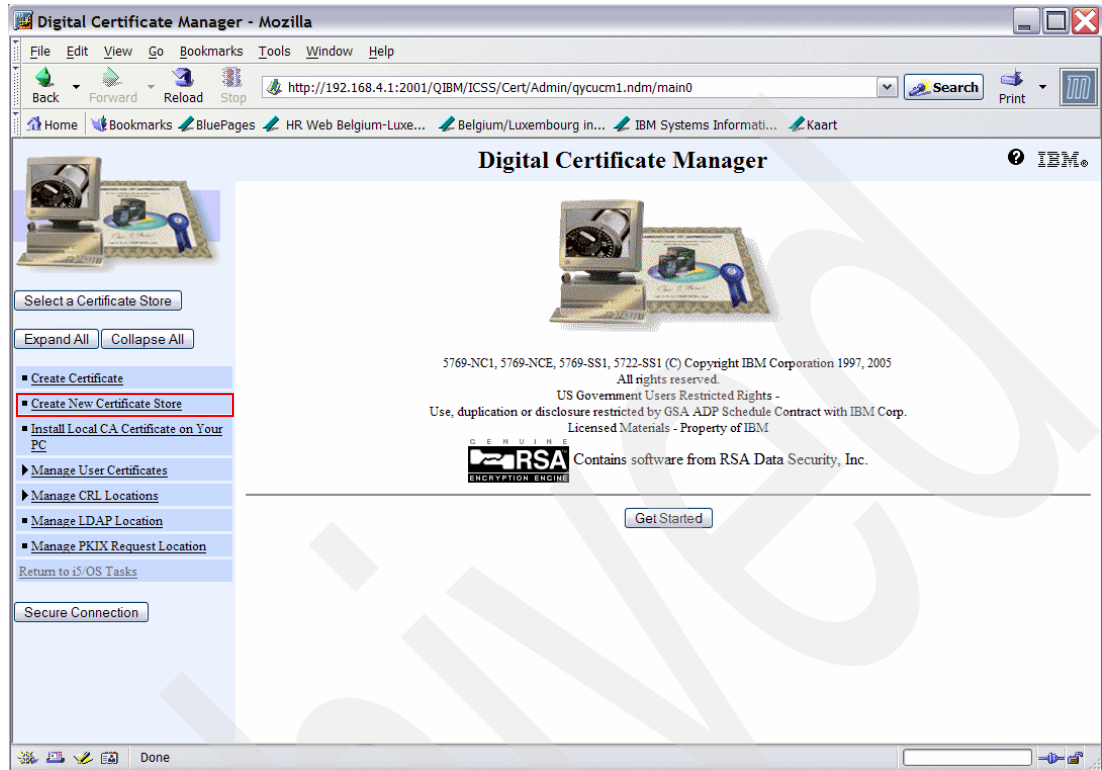

Figure 6-40 DCM start page
This takes you to the DCM start page (Figure 6-40 on page 168). The installation is complete.
1. From the DCM start page (Figure 6-40), select **Create New Certificate Store**.